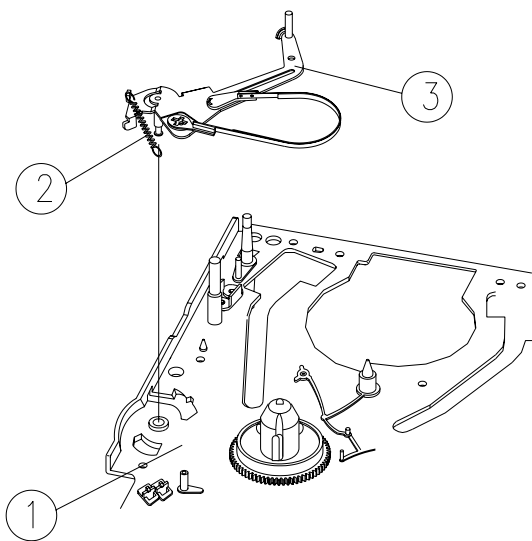

Fig.3-15 TENSION BAND ASS'Y REMOVAL (I)
3-10. TENSION BAND ASS'Y REMOVAL (See Fig.3-15, 3-16)
- a. Remove the TENSION SPRING ② from the MAINBASE ①. (Fig.3-15)